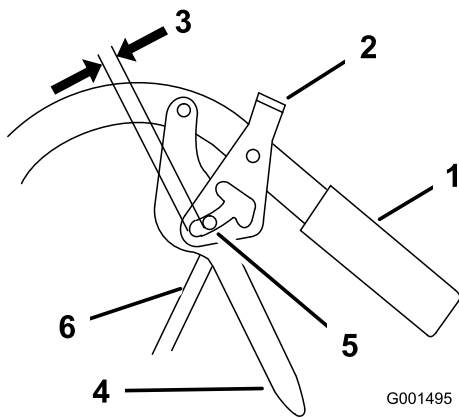

Figure 46
2. Adjust the control rod length by threading the rod in or out of the rod fitting until there is a 3/16 to 1/4 inches (5 to 6 mm) clearance between the control rod and the bottom of the neutral/parking brake lock (Figure 46).